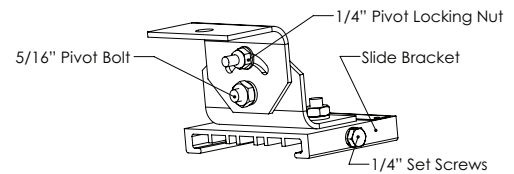

Figure 4. Swivel Mount Details
6. Tighten the two (2) 1/4" set screws on each slide bracket until they bottom (see Figure 4). Torque to 78 in.-lbs. (8.8 N-m).
7. Adjust the position of the fixture to the desired angle and tighten the two (2) 5/16" pivot bolts. Torque to 138 in.-lbs. (15.6 N-m).
8. Tighten the two (2) 1/4" pivot locking nuts at the adjustment slots to 78 in.-lbs. (8.8 N-m).